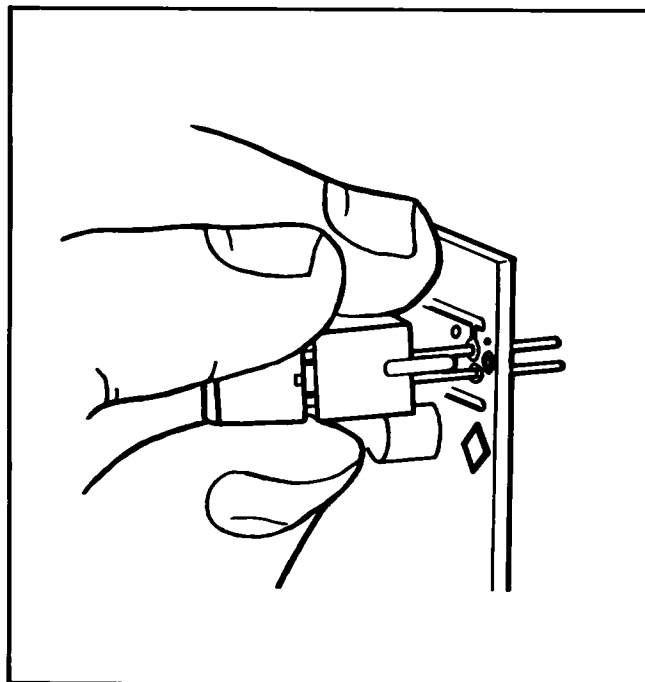

Figure 8-16. LED Installation in Switch.
- i. Rotate LED (in bottom of switch plunger) so that the shortest lead passes through the P. C. board mounting hole (identified with dot marking). See Figure 8-16.